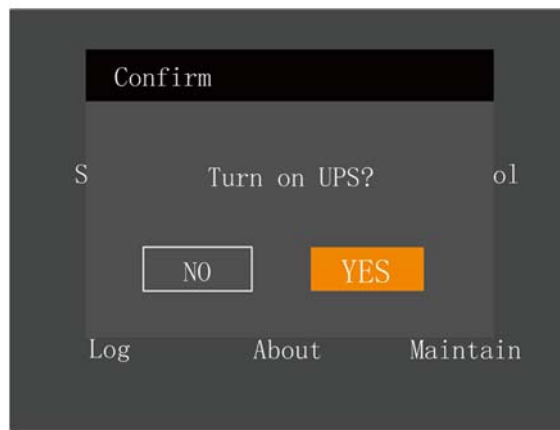

Figure 5-6 Switching the UPS on
- 2. Press the power button for two seconds so that the dialogue box shown in Figure 5-6 appears on the LCD screen.